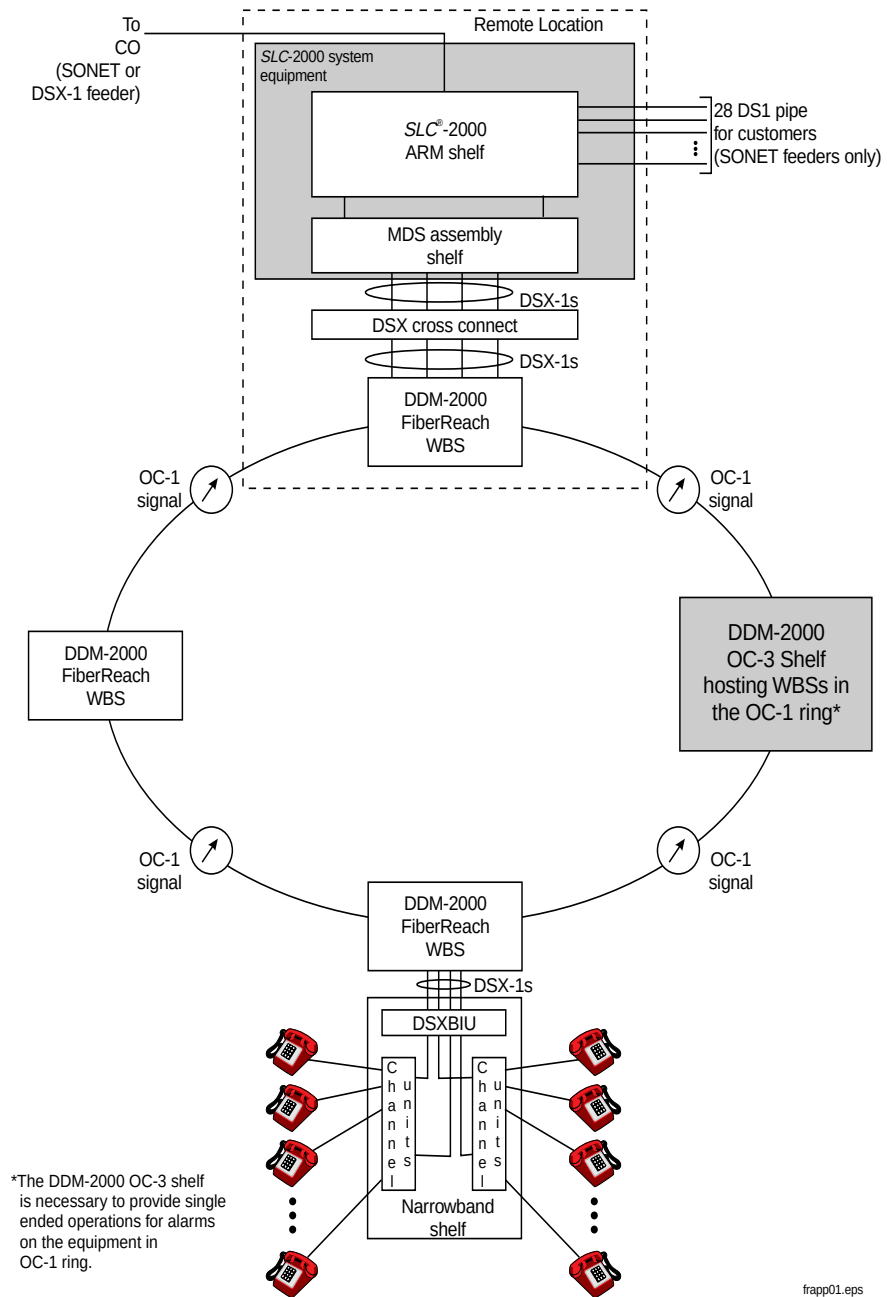
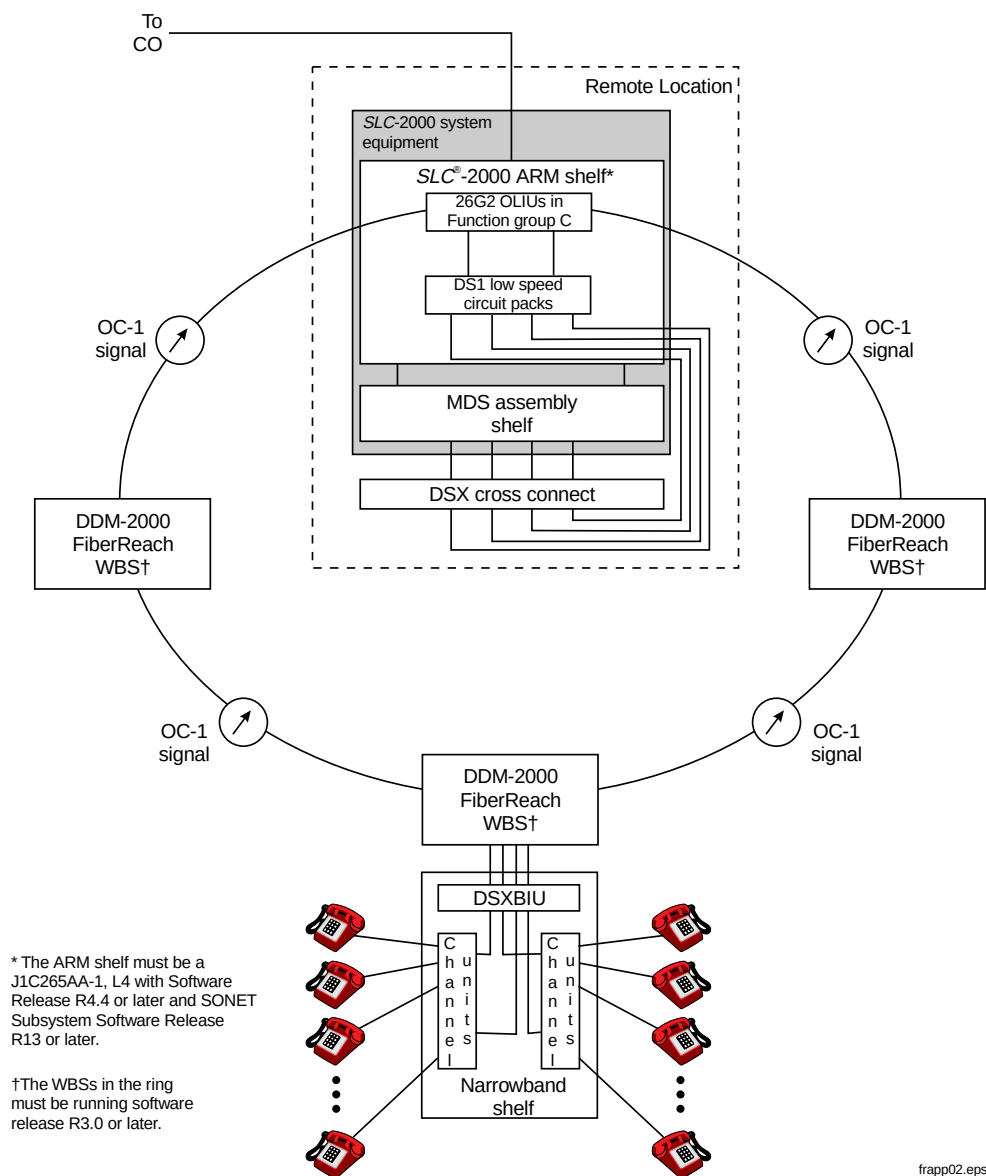
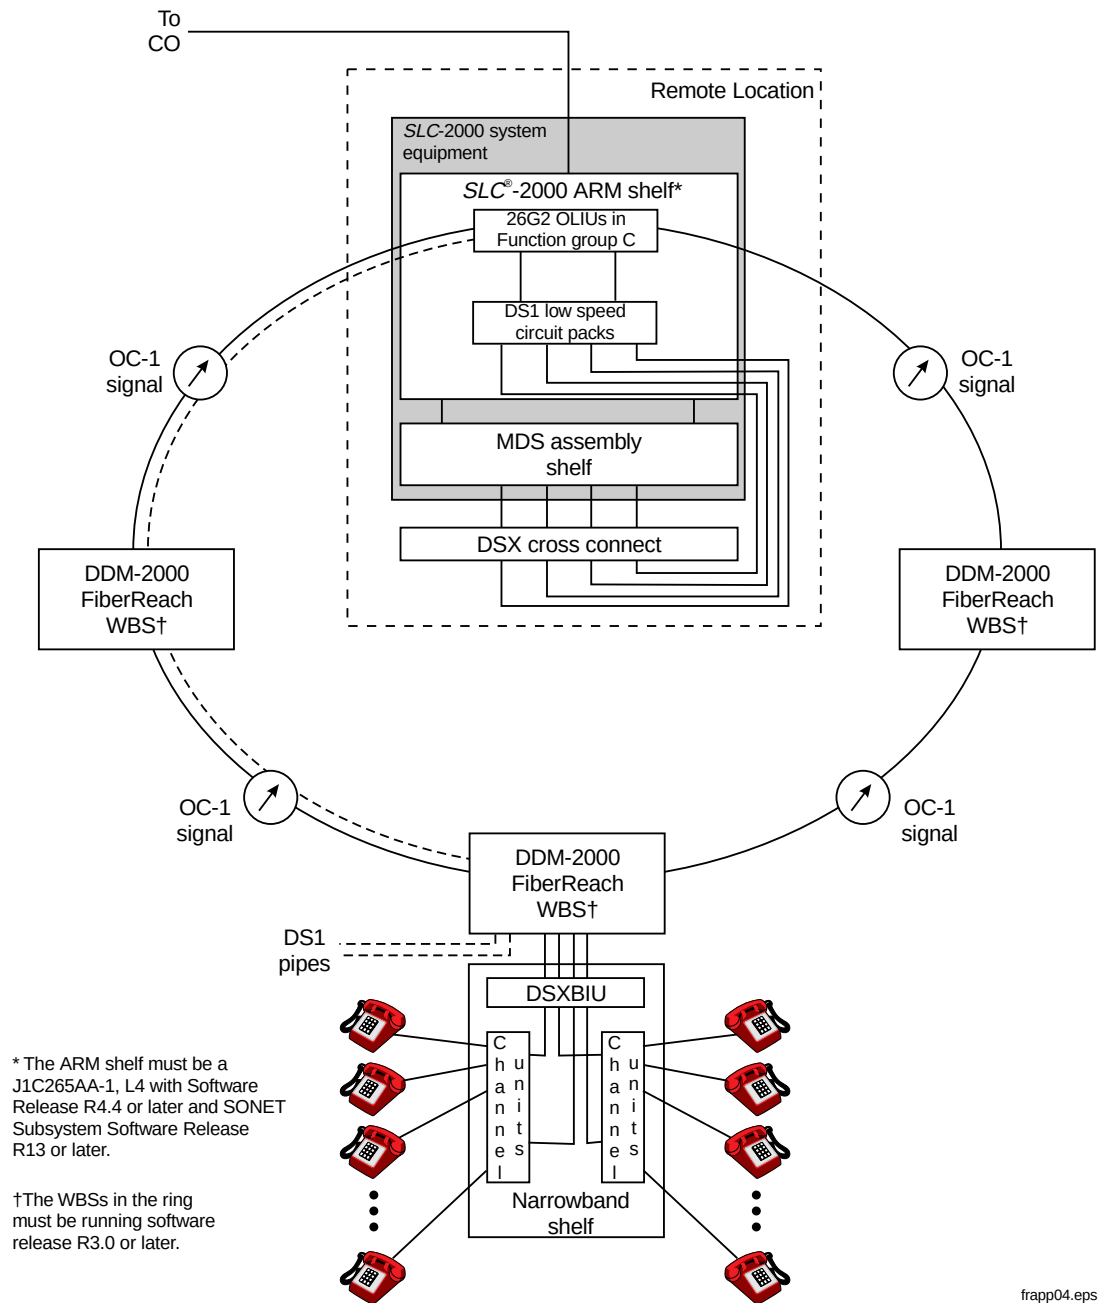

Figure 2-10. SLC-2000 System Hosting a FiberReach NBS Through a Collocated WBS
Figure 2-11. SLC-2000 System Hosting a FiberReach NBS using 26G2-U OLIUs and a J1C265AA-1, L4 ARM Shelf
Figure 2-12. SLC-2000 System Hosting a FiberReach NBS using 26G2-U OLIUs and a J1C265AA-1, L4 ARM Shelf Provisioning DS1 Pipes Through a WBS
The *SLC-2000* system can host a DDM-2000 FiberReach Narrowband shelf (NBS) optical network unit (ONU) through an OC-1 ring using DDM-2000 FiberReach Wideband shelves (WBSs). Figure 2-10 and Figure 2-11 show the following typical applications:
- ***WBS Collocated with the SLC-2000 system (Figure 2-10):*** In this configuration, the collocated WBS is part of an OC-1 ring. This configuration requires a DDM-2000 OC-3 shelf or a *SLC-2000* ARM shelf to be part of the ring and host the WBSs. I.
- ***SLC-2000 J1C265AA-1, L4 ARM Shelf with 26G2-U OLIUs (Figure 2-11):*** In this configuration, the J1C265AA-1, L4 ARM shelf contains 26G2-U OLIUs in Function Group C as part of the OC-1 ring. The *SLC-2000* system must contain SONET subsystem Software Release R13 or later and the WBSs in the ring must contain FiberReach software R3.0 or later. This configuration eliminates the need for a collocated WBS and a DDM-2000 OC-3 shelf to host the WBSs in the OC-1 ring. In this configuration, the 28 DS1 pipes are not accessible from the DS1 low-speed slots in Function Group C of the ARM shelf. However, as shown in Figure 2-12, DS1 pipes are accessible from any of the WBSs on the ring if the bandwidth to support them is available on the OC-1 ring.